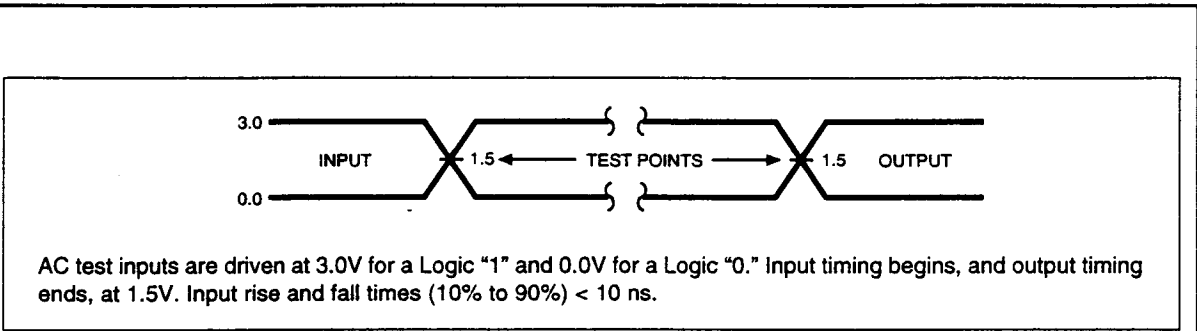

Figure 4 . Transient Input/Output Reference Waveform ($V_{cc} = 5.0V \pm 0.5V$)
1. See AC Input/Output Reference Waveforms for timing measurements, Figure 4.